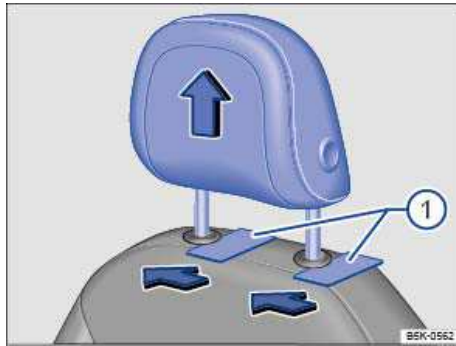

Fig. 39 Removing the front head restraints.
- Slide a flat object, such as a plastic credit card, underneath the right side of the cap on the right-hand seat guide rod ⇒ fig. 39 (1) to unlock the head restraint.